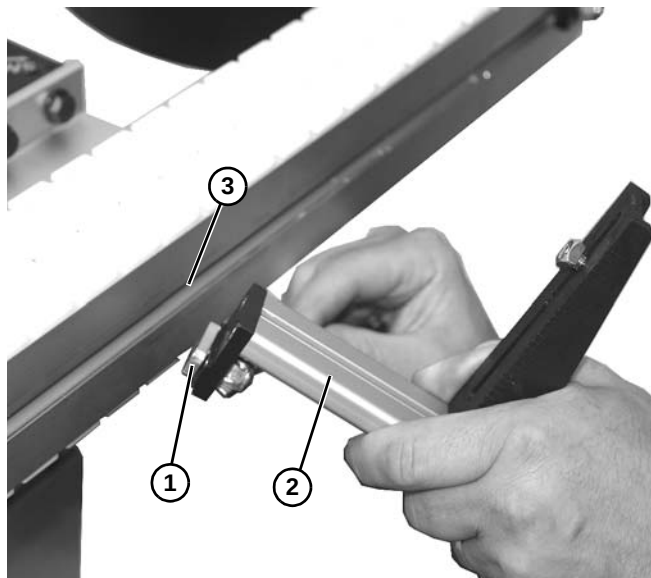

Figure 41
1. Install stud (Figure 41, item 1) on guiding assembly (Figure 41, item 2) into side rail channel (Figure 41, item 3). The end guiding assemblies should be no greater than 12" from end of the conveyor.